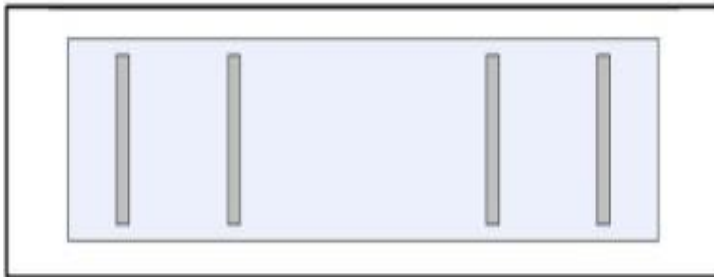

Figure 1
1. The Flat Sheet will come with either magnets or VHB Tape. If not yet installed, add the magnets or tape to the back of the flat sheet equally spaced (See Figure 1).